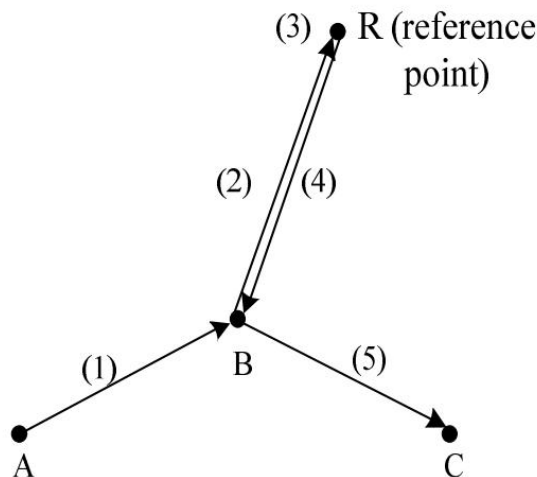

Fig 4-3-1-1
1. The action of the G28 program segment can be decomposed into the following steps (see Figure 4-3-1-1):